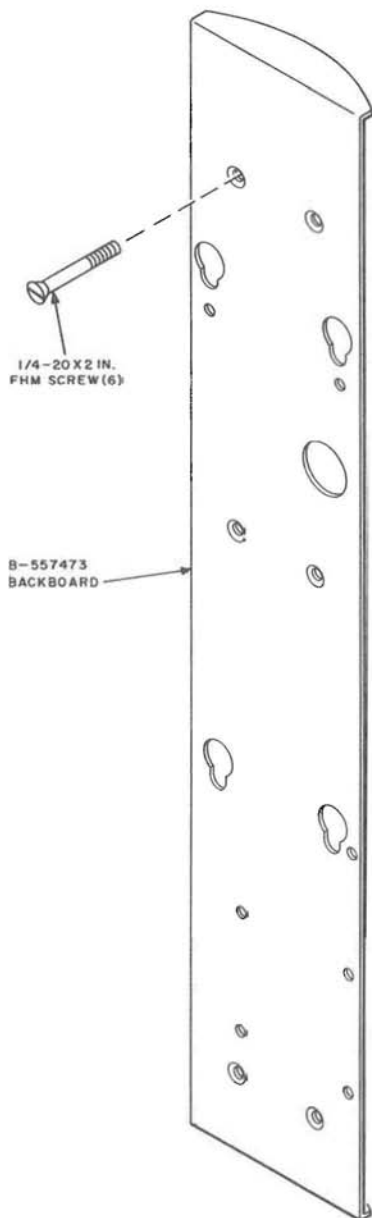

Fig. 4—KS-19206, List 7 Coin Telephone Set Installation Kit
- 3.17 List 7 Kit:** Install KS-19206, List 7 kit in accordance with Fig. 4.